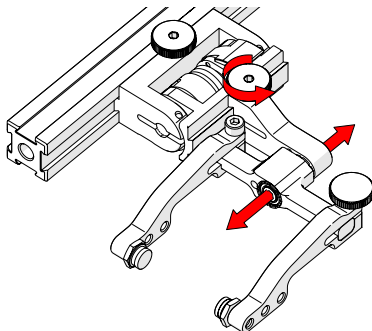

Fig. 78 - Adjust swing arm
3. Use swing arm knob to position the swing arm (Fig. 78).